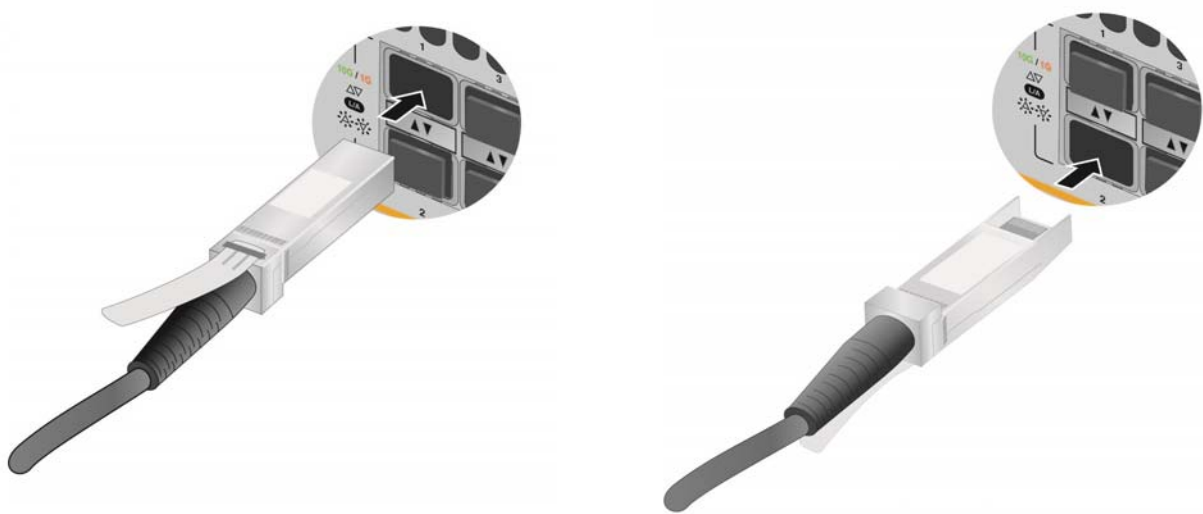

Figure 73. Installing AT-SP10TW Cables
4. To install the transceiver in a port in the top row, position the transceiver with the Allied Telesis label facing up. To install the transceiver in a port in the bottom row, position the transceiver with the label facing down. Refer to Figure 73 on page 137.